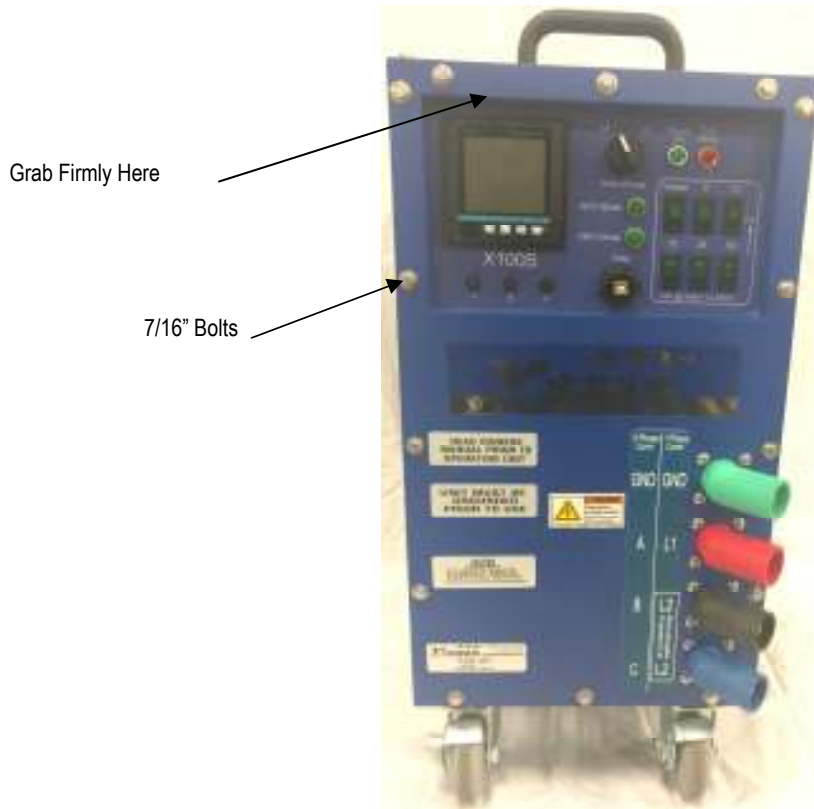

Figure 8
1. Using a 7/16" socket or wrench, remove the 14 bolts from the front of the load bank making sure to keep a firm grip on the top of the switch panel. (See figure 8)